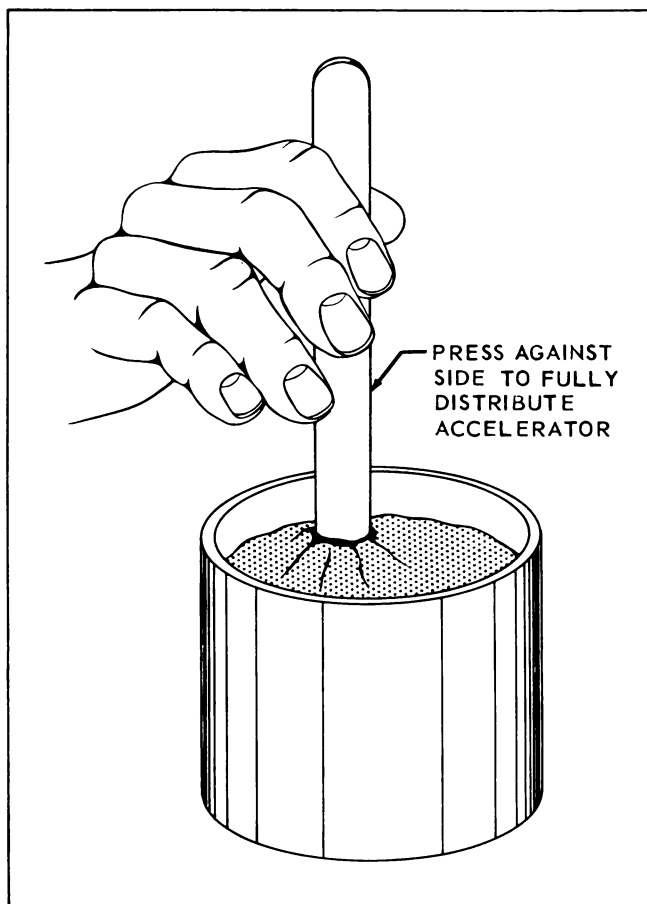

Figure 3-68. Hand Mixing Potting Compound
c. Combine accelerator and the base material and thoroughly agitate or mix slowly until no accelerator streaks or traces of unmixed material are visible. This normally requires approximately five minutes. Continued scraping of the sides and corner of the bottom of the container will insure complete mixing. (See Figure 3-68.)